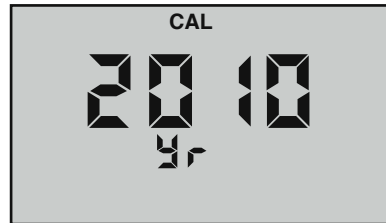

Figure 12
3. Press  to initiate. "CAL" will be displayed along with the year, "Yr" (see Figure 12).